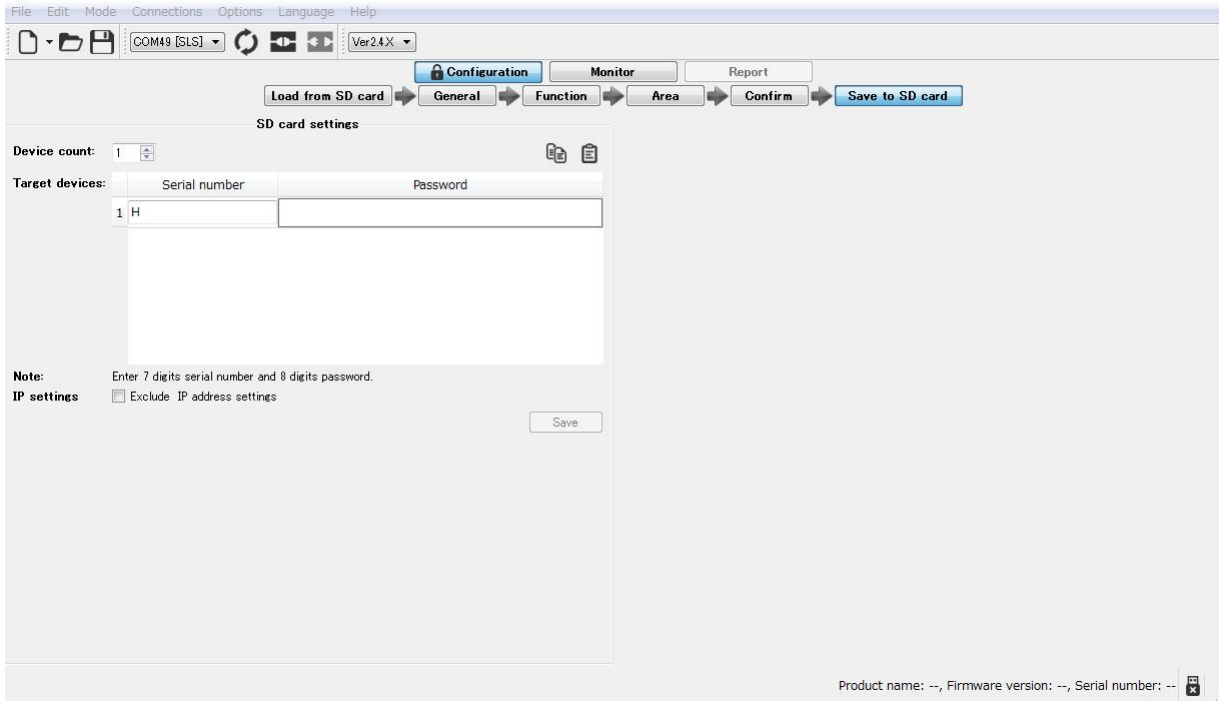

Figure 7-60 SD Card setting screen
- e) In the SD card setting tab (Figure 7-60), enter the serial numbers and the 8-digit passwords of all the SE2Ls intended to be configured with the settings on the SD card. To prevent the change of IP address of the SE2L, check the “Exclude IP address setting” on the tab. This will retain the original IP address of all the SE2L.